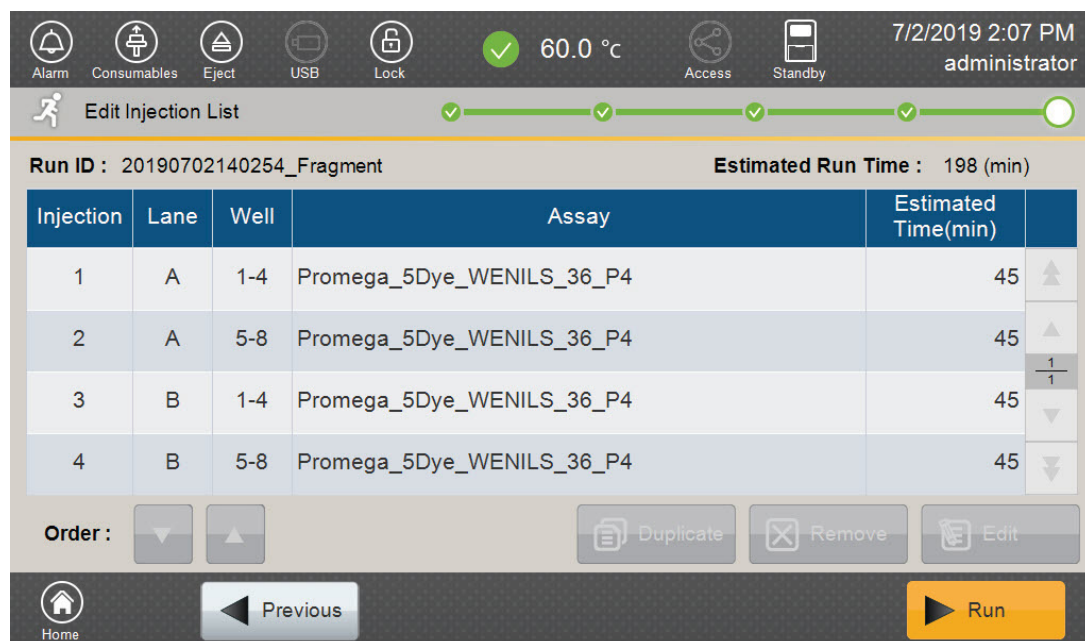

Figure 20. 'Edit Injection List' Screen.
4. After the autosampler has returned to its home position, the 'Edit Injection List' screen will be displayed (Figure 20).